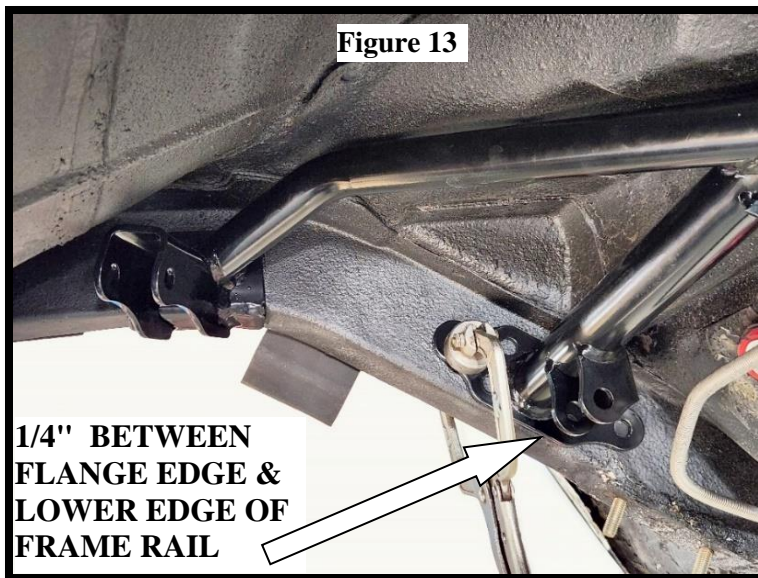

Figure 13
6. Reinstall the crossmember to the correct position with the center tucked tightly to the floor pan with 1/4" of frame rail below the front flange. **(Figure 13)**